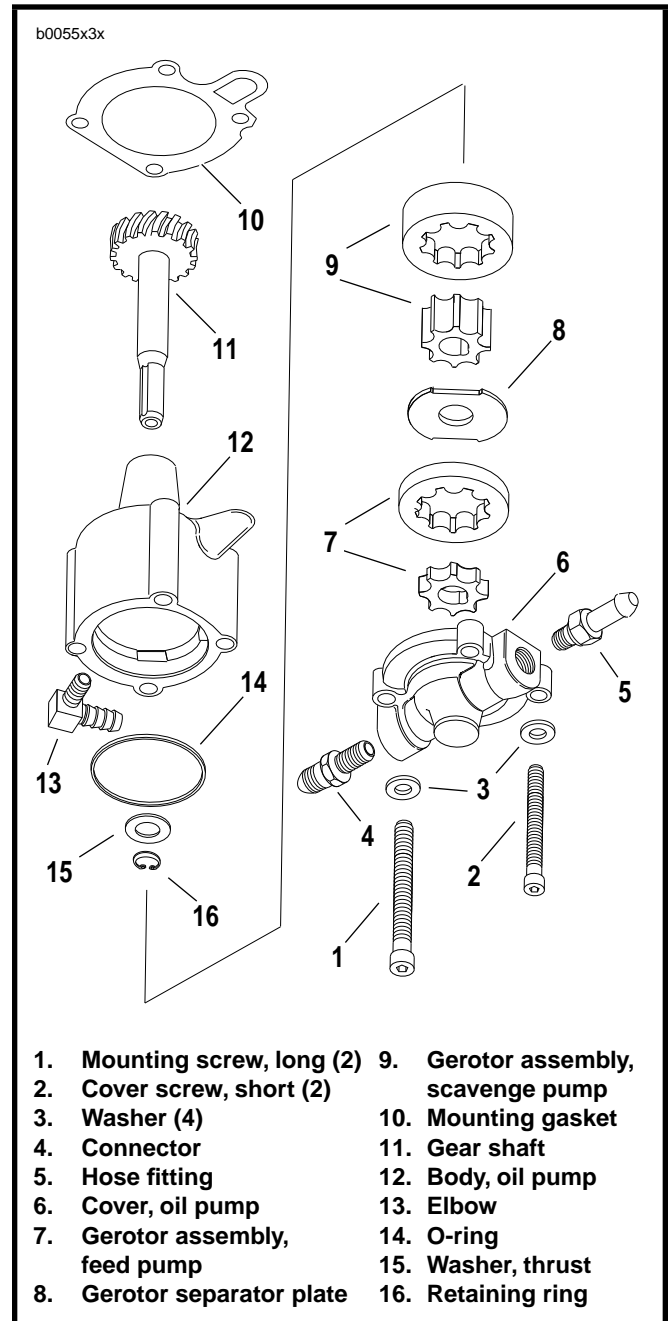

Figure 3-46. Oil Pump
2. During the next 180° of rotation, the size of the cavity decreases forcing oil into the outlet. See Figure 3-46.
6. See Figure 3-46. Remove cover screws (2) and washers (3). Lift cover (6) off body (12). Remove and discard O-ring (14).
7. Slide both pieces of feed gerotor set (7), separator plate (8) and both pieces of scavenge gerotor set (9) off gear shaft (11).
8. Remove and discard retaining ring (16). Remove thrust washer (15) and gear shaft (11).
1. See Figure 3-46. Install gear shaft (11) through body (12). Position thrust washer (15) over end of shaft. Install **new** retaining ring (16) into groove in shaft.